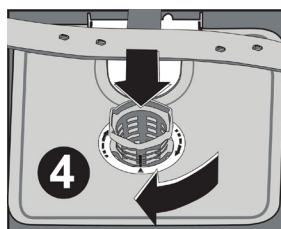

Fig. 16
You should clean and rinse the filters thoroughly before replacing all the sections in reverse order to that above. The microfilter should lock into place once it is secure (Fig. 16).
- The drain hose support (fig. 16) must be secured at a minimum of 60cm and a maximum of 110cm from the floor **and must be higher than the sink waste.**